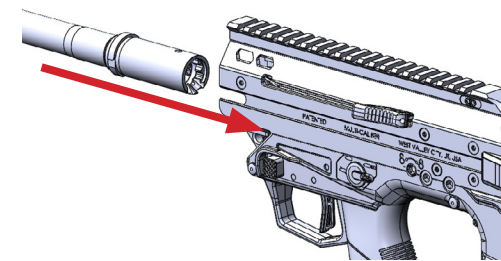

Fig. a-6
7. Insert the barrel assembly into the MDR receiver, barrel extension end first with the gas block rail at the 12 o'clock position. When properly seated in the receiver, there should be around a 1/16" (1.5mm) gap between the front edge of the upper receiver and the back edge of the gas block. (Fig. a-6)